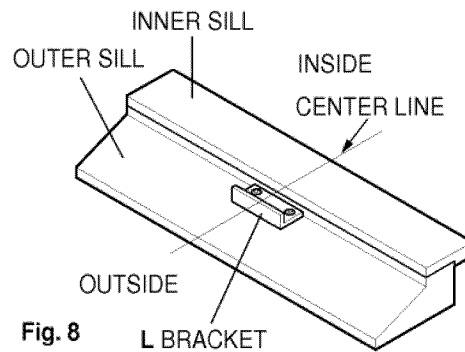

Fig. 8
- b. Bracket helps to hold unit securely in place. Be sure to place bracket edge flush against back of inner sill. See Fig. 8.
- a. Carefully lift the air conditioner and slide it into the open window. Make sure the bottom guide of the air conditioner drops into the notches of the L bracket. See Fig. 8.